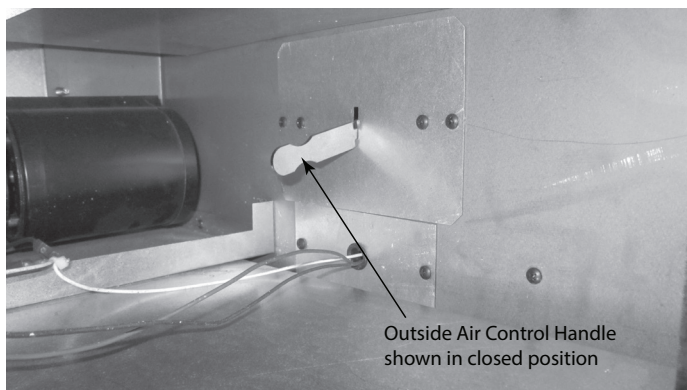

Figure 3.20 Outside Air Handle Shown on Right Side
- Open outside air by opening the lower access panel and locate the outside air handle (it could be on the left or right). Lift the handle up and pull out to open. See Figure 3.20.